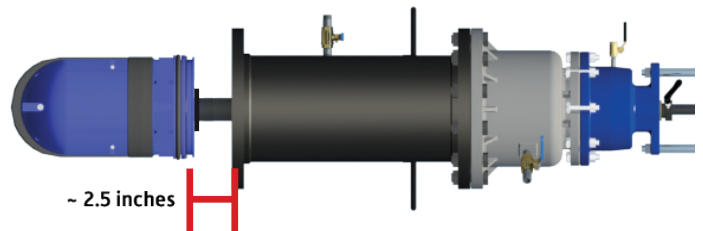

Figure 79
5.1.11 Insert the assembled valve cartridge and insertion tool through the insertion housing / tapping assembly until the top of the valve cartridge is approximately 2.5" from the bottom flange of the insertion housing. Make sure the shorter, truncated side of the valve cartridge, marked with a star, is facing upwards (see Figure 79).